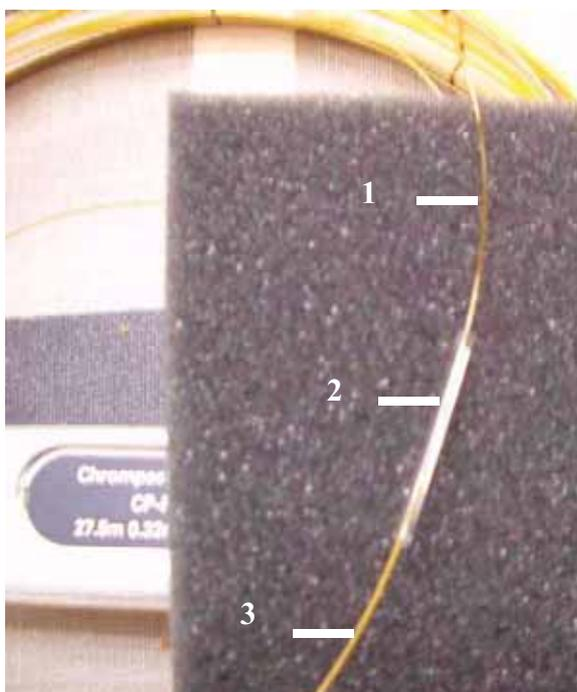

Figure 2-34. Junction between Both Parts of the Column
- the functional part (light yellow, see **3** in Figure 2-34). It is the packed part of the column, that is the plot part.
- the post-column or pre-column (nearly transparent; see **1** in Figure 2-34)
The junction between both parts is established by a press-fit and shown as **2** in Figure 2-34.